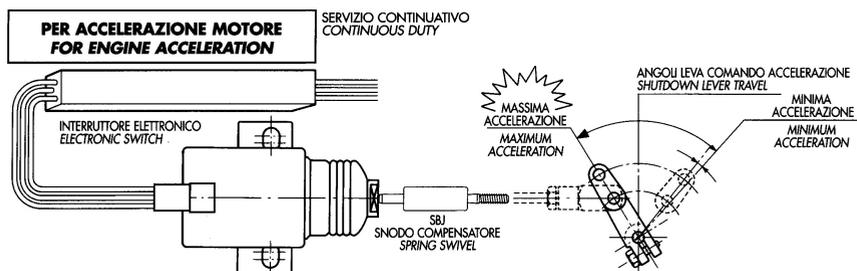

FIG.4
- b) **Elettrostart electromagnet without internal switch with external electronic timer**: this configuration is obtained with electromagnets Series 3 (see para. “Electric Circuits for Diesel Engines”) in combination with the electronic switch IE04 (Fig.4).